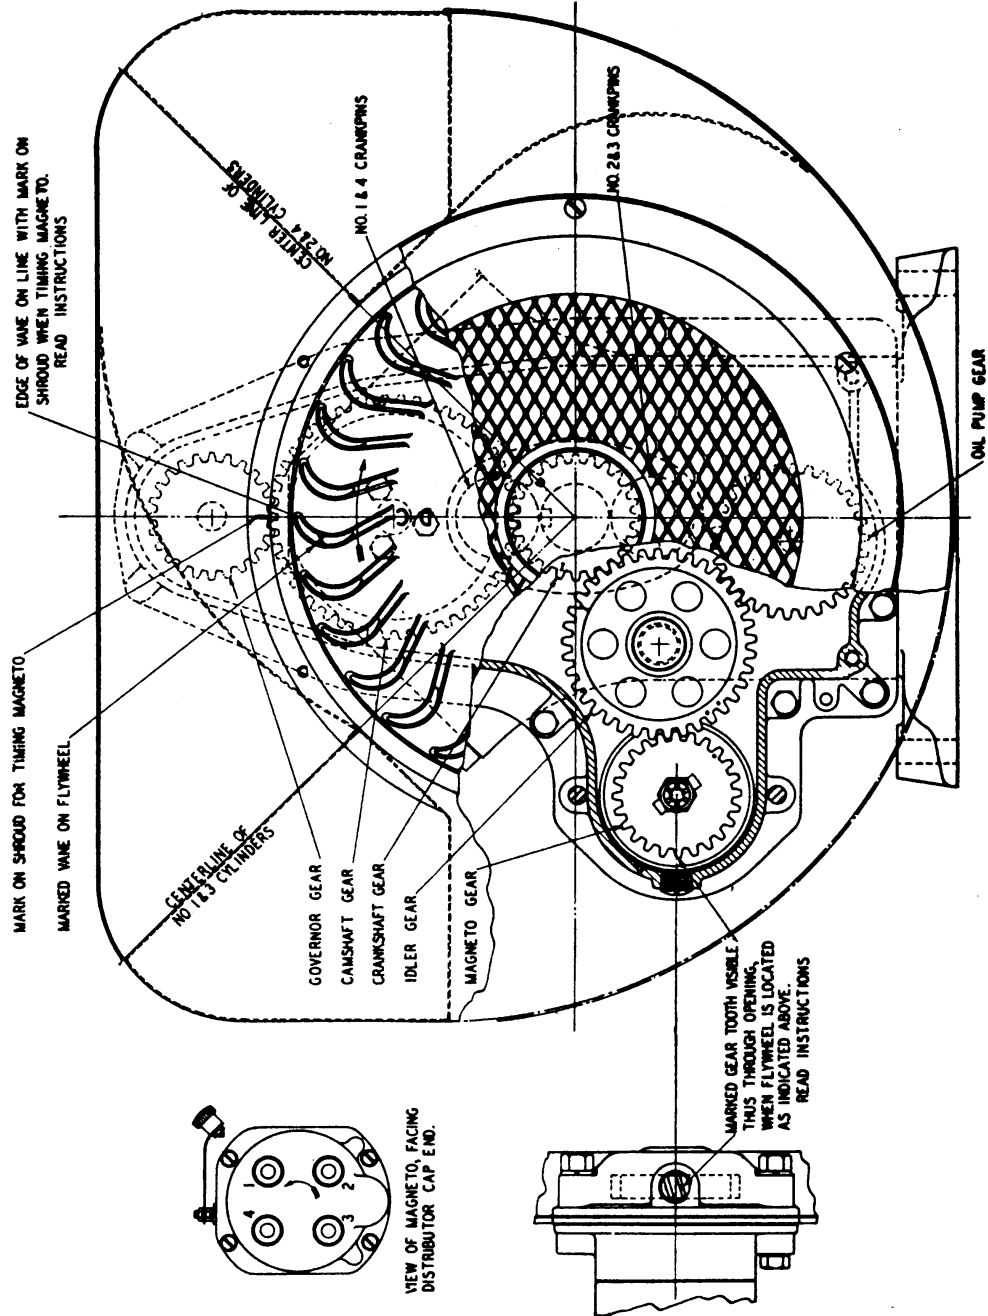

FIGURE 13.—Power Unit PE-99-G, timing diagram.
- i. Service of Breaker Contact Points.** Contact point adjustment necessitates removal of the distributor housing which has a sealed gasket joint with the metal housing. The contact points should be examined for evidence of pitting or pyramiding. A small tungsten file or fine stone may be used to resurface the points. If the points are worn or badly pitted, they should be replaced. Points should be adjusted to have a .012 inch gap at full separation. Adjustment is made by loosening the round head locking screw at the upper end of the stationary point bracket (figures 13 or 14 or both) then turning the eccentric head adjusting screw until the proper gap is obtained, and locking the assembly by tightening the round head screw.
- m. **Special Drive Gear.** The magneto is equipped with special drive gears, mounted directly on the impulse coupling. The gear is a slip fit on the extended coupling nut, since movement of the gear with respect to the coupling nut (and rotor shaft) occurs during the impulse period. If it is necessary at any time to remove the drive gear, special care must be exercised in reassembly. First, remove the entire end cap and turn the rotor until the contact segment is in firing position for #1 cylinder (figure 13). With the rotor in this position, fit the gear to the coupling lugs so that the prick punch mark on the rim of the gear is in the position shown (figure 13).